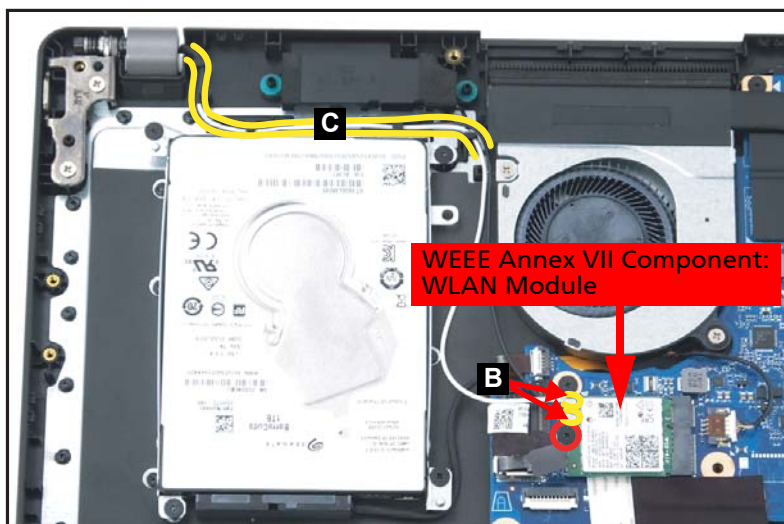

Figure 1-10. WLAN Module Removal
2. Disconnect WLAN antennas connected to the WLAN module connectors (B) (Figure 1-10). Then remove the WLAN antennas (C) from the cable guides as shown in Figure 1-10.
3. Remove one (1) screw securing the WLAN module in place (Figure 1-10).